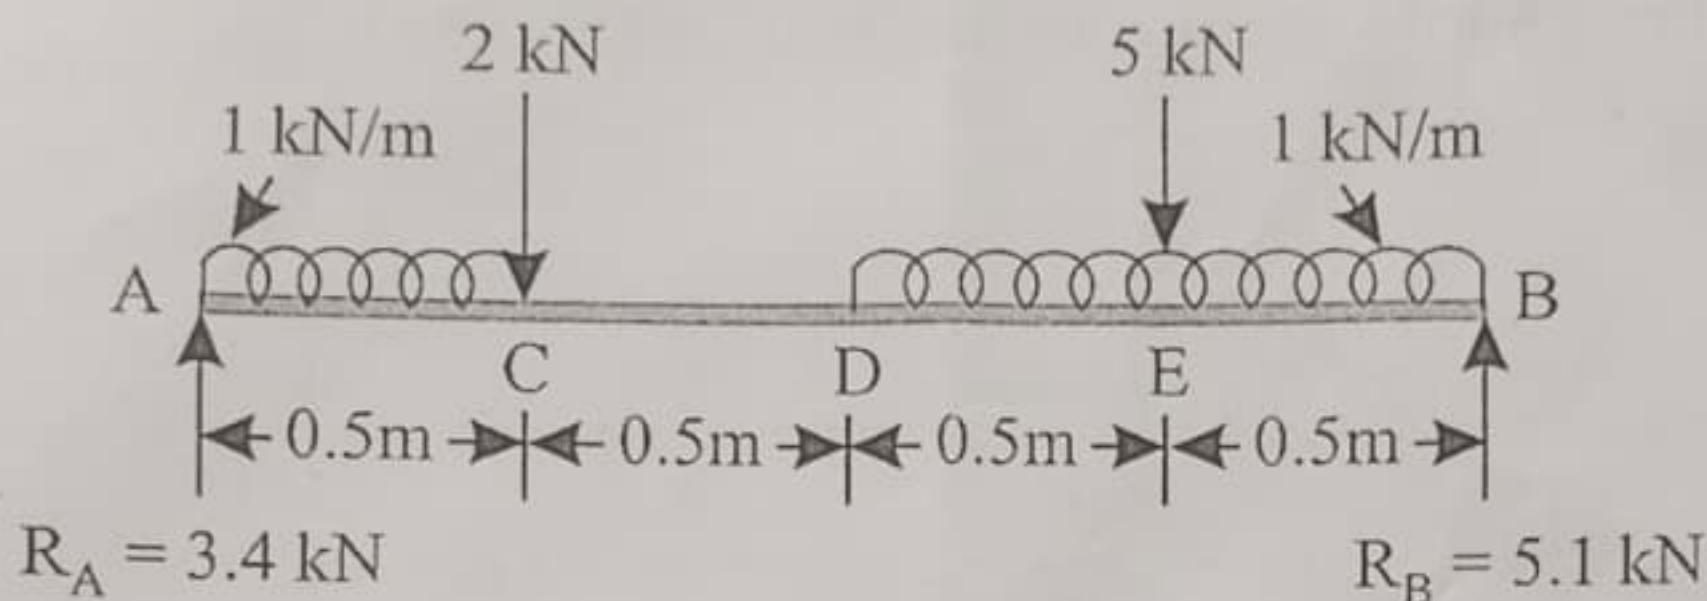

Figure 7
9.b) Draw the shear force and bending moment diagrams for the beam shown loaded in Figure 7